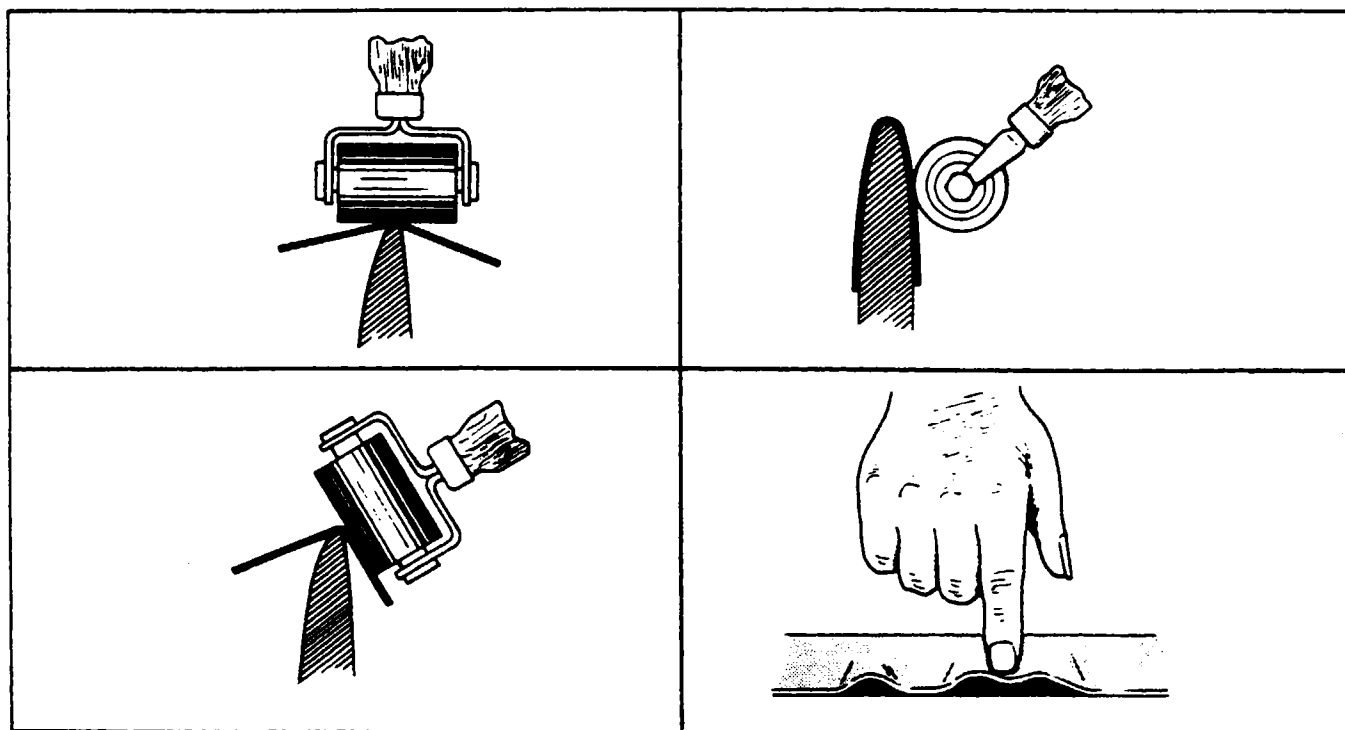

Figure 14-13. Wrinkled Deicers
- f. When the deicer is correctly positioned, roll firmly along the centerline with a rubber roller. (Refer to Figure 14-13.)
14-27. **WRINKLED DEICERS.** (Refer to Figure 14-13.) If edge of deicer is found wrinkled or loose, try recementing. Use MEK or Toluol to loosen the bond for an additional 1/4 inch beyond the loose or wrinkled area. Apply one coat of 1300L cement to the deicer and propeller bonding surfaces and allow to air dry for one hour. Then apply a second coat of 1300L cement to both the deicer and bonding surface. Allow to dry. Retackify with MEK or Acetone and press with fingers to work out wrinkles or to secure loose edges. If material has stretched and will not cement flat, replace the deicer.